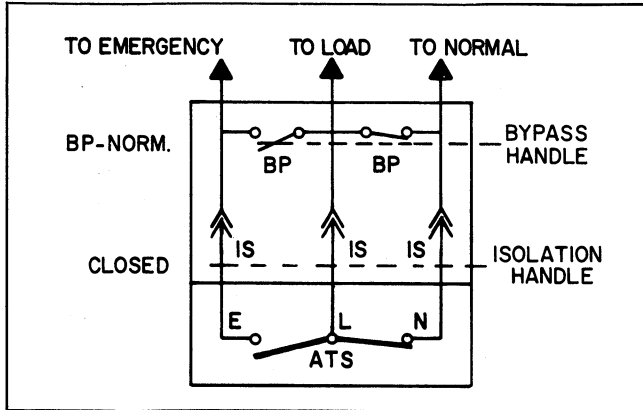

Figure 11. Source Bypass
1. Note which "Load Connected To" lamp is on (Normal or Emergency). This is the position of the Automatic Transfer Switch (Figure 11).